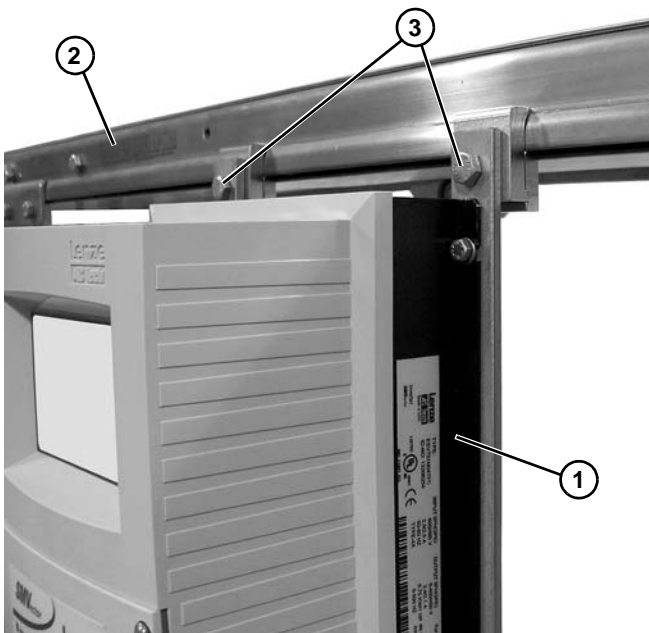

Figure 17
- Attach controller (Figure 17, item 1) to conveyor (Figure 17, item 2) with screws (Figure 17, item 3).